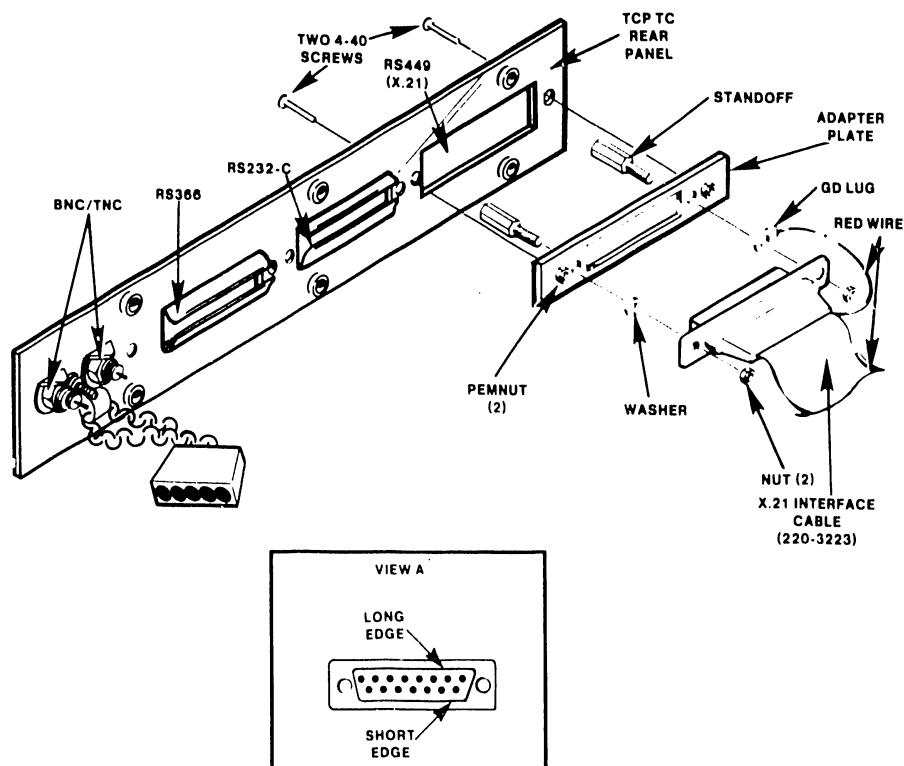

Figure 4-32 X.21 Interface Cable Installation
1. Position the TC rear panel as shown in Figure 4-32 (internal side of TC rear panel).
2. Fit the X.21 cable "D" connector to the adapter plate. Make certain that the long edge of the "D" connector is on top (Figure 4-32).
3. Insert two threaded standoffs (P/N 478-0791) through the X.21 adapter plate (P/N 452-0274) and "D" connector screw holes. Ensure pemanns on adapter plate are facing as shown in Figure 4-32.
4. Place the X.21 cable "D" connector on the standoffs (Figure 4-32).